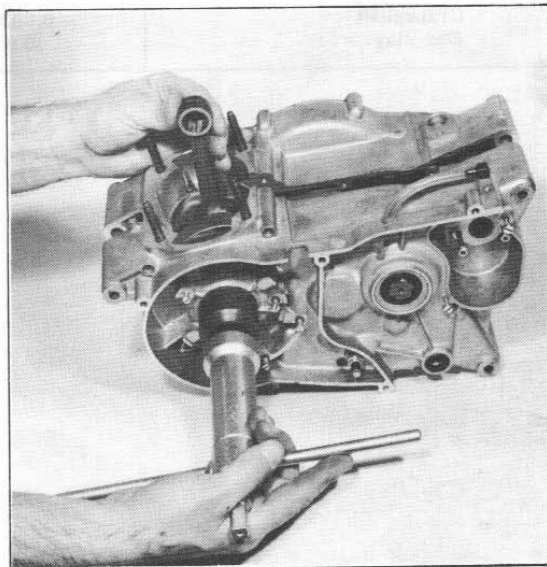

Figure 3.25. Closing Crankcase
sition on crankshaft and countershaft. Place tool, Part No. 96110-68P, and spacer, Part No. 96111-74, on crankshaft end as shown in Figure 3.25. Then, while tapping rear of crankcase into place with a rawhide mallet, pull crankshaft into place in left crankcase side (26). This operation should be per-